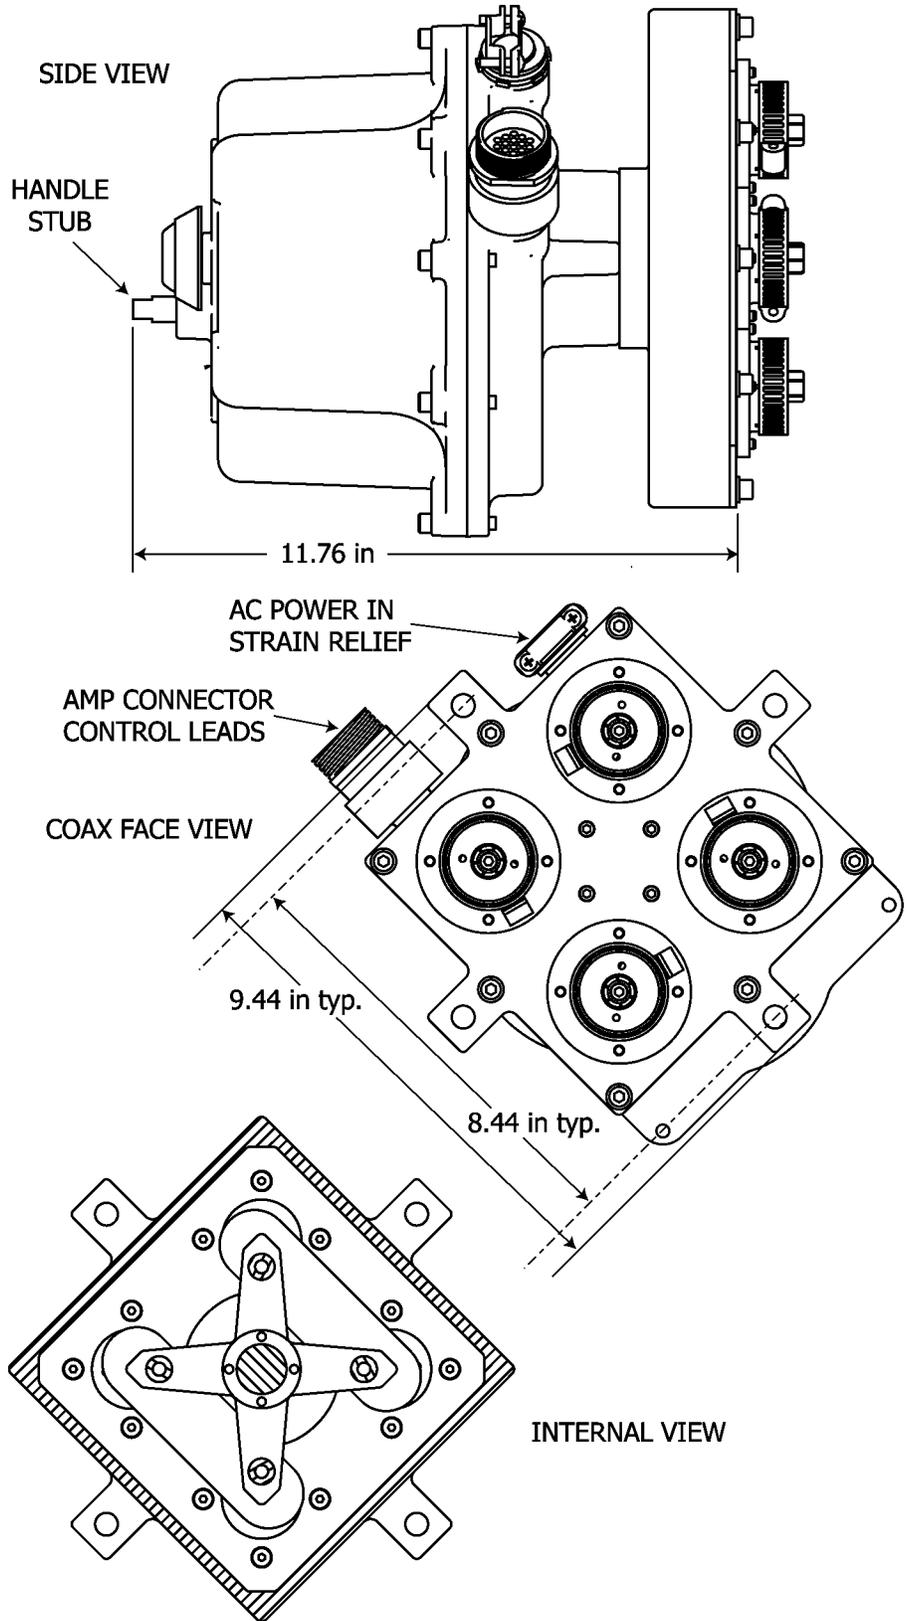

Figure 2. Coax switch views
- (1) Mount using the four mounting holes shown on the mechanical outline drawing, Figure 2 on page 3.
- (2) Orient the RF ports to meet the required transmission line layout.
- (3) Locate the manual operate handle stub in an accessible location for manual switching in the event of control power failure.
- (4) Provide a minimum of eight inches of clearance above the top of the motor drive cover to allow for removal.
- b. Using a wrench or hand wheel, press down on the handle stub (see Figure 2 on page 3) and turn until the pointer on the switch cover lines up with the desired position.